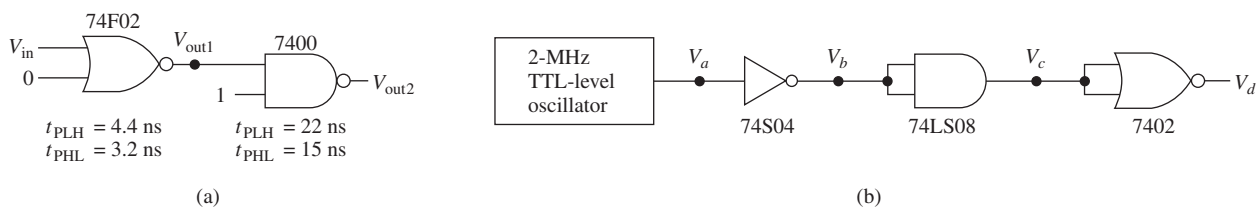

Figure P9-10
- C** **9-10. (a)** Repeat Problem 9-9 for the circuit of Figure P9-10(a).
(b) Repeat Problem 9-9 for V_a , V_b , V_c , and V_d in Figure P9-10(b).